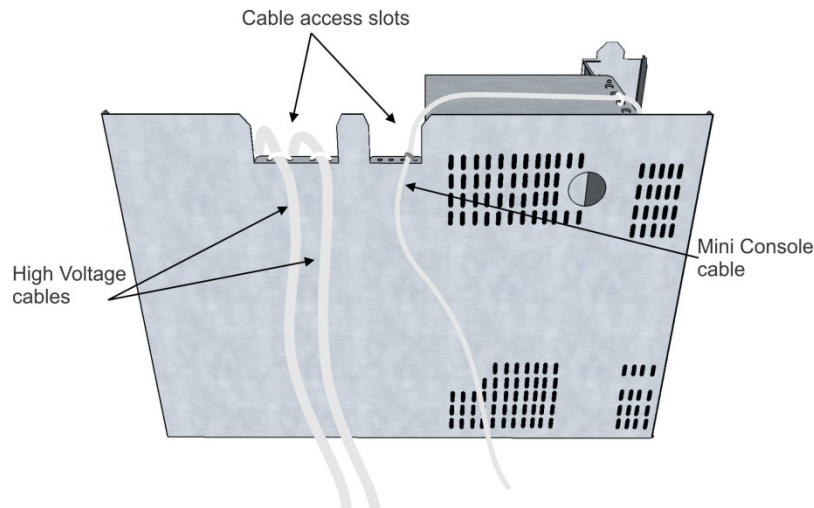

Figure 2-7: Cable routing
5. Route the mini console cable through the cable access slot on the side of the generator chassis as shown in Figure 2-7. Keep the mini console cable and HV cables separated to maximize EMI performance.